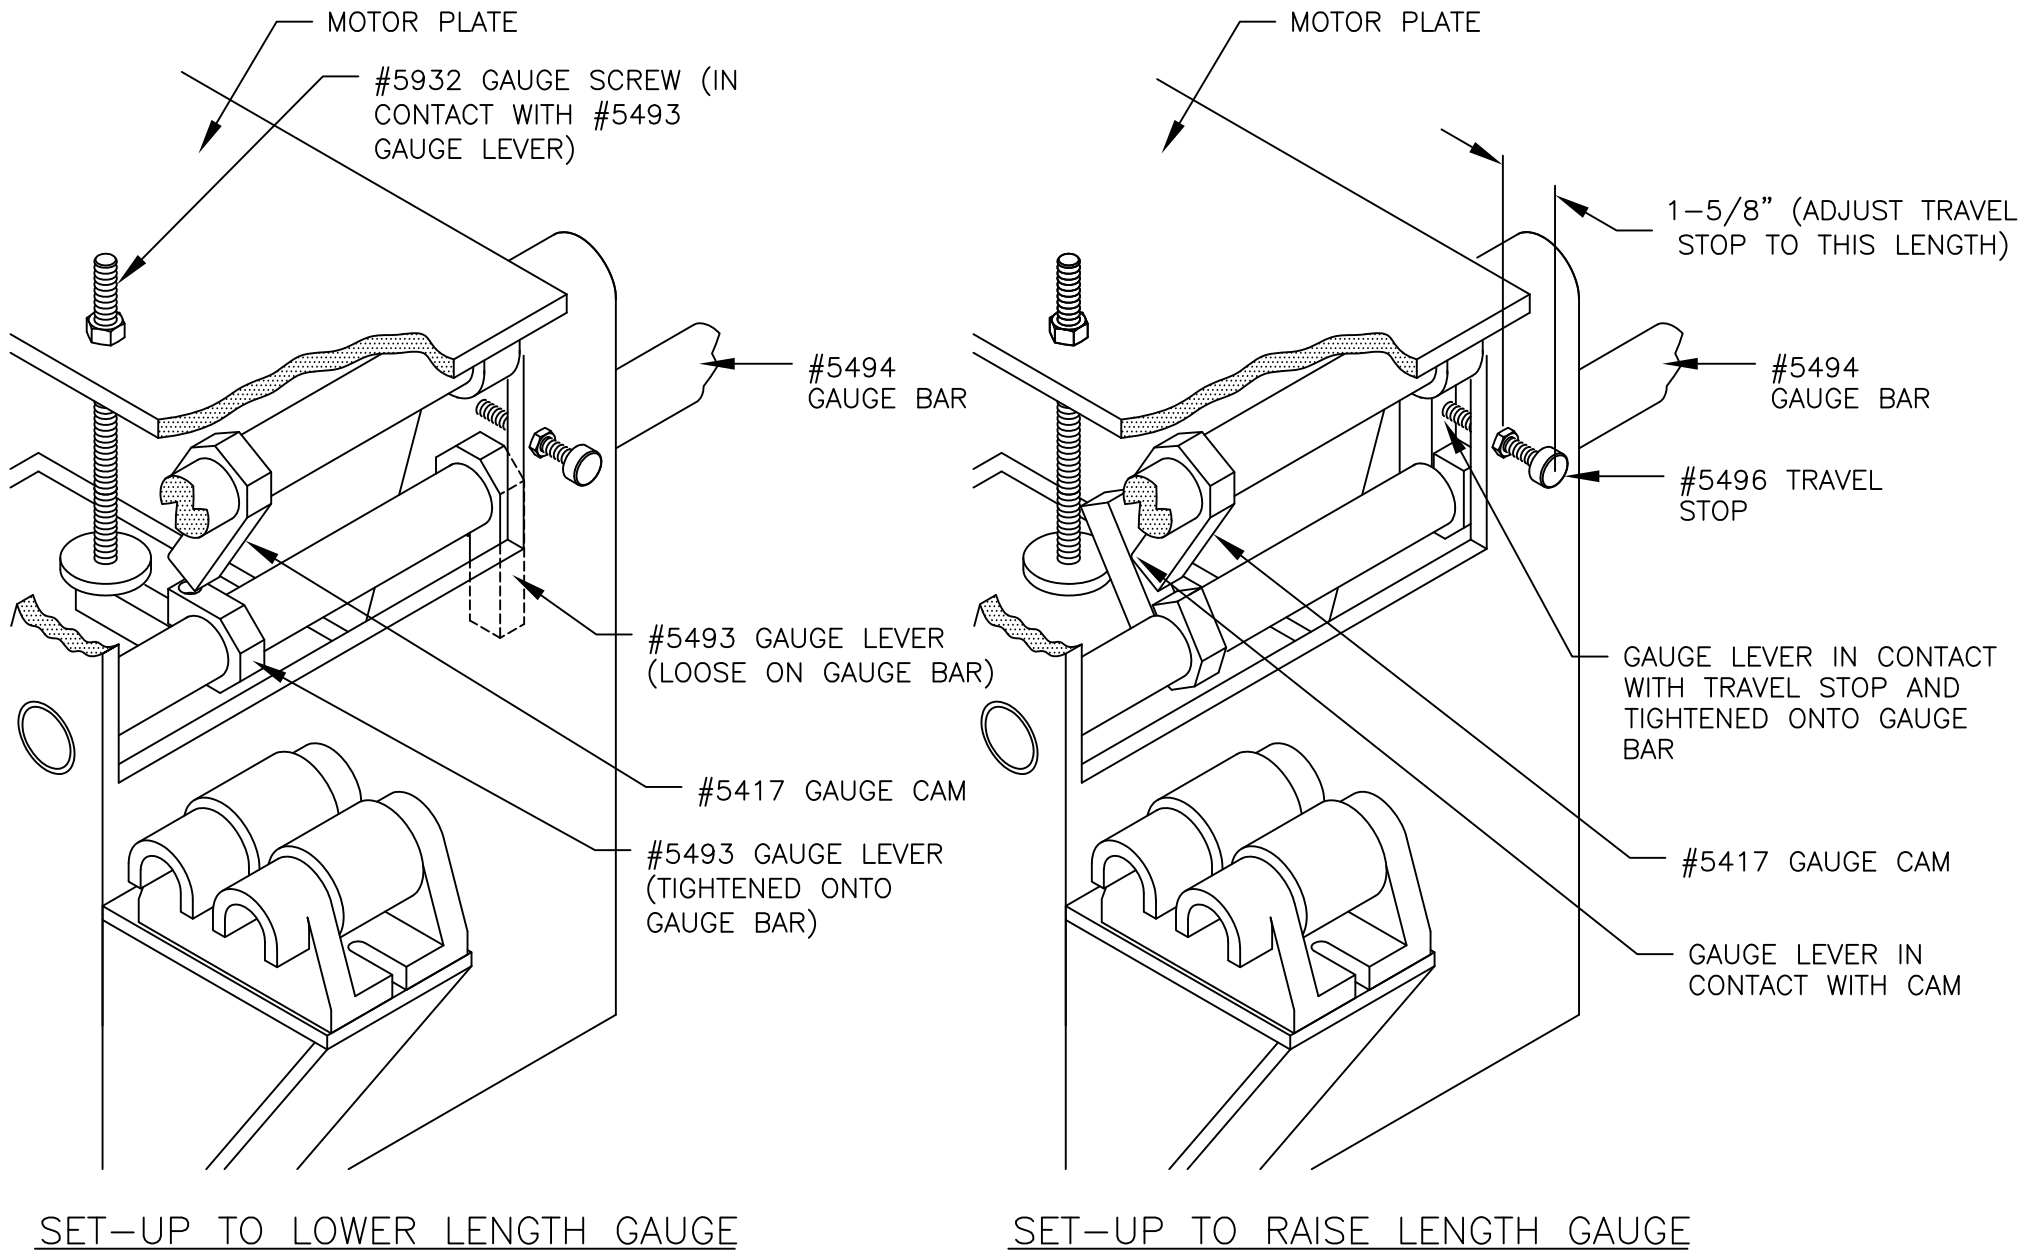

FIG. 2 — LENGTH GAUGE SET-UP
#### SET-UP to LOWER the Length Gauge (Refer to Figure 2):
SET-UP to RAISE the Length Gauge (Refer to Figure 2):
- Adjust the #5496 Travel Stop to the dimension shown in Figure 2.
- Turn the Travel Stop out (counterclockwise) two turns and lock in place. See Figure 2.